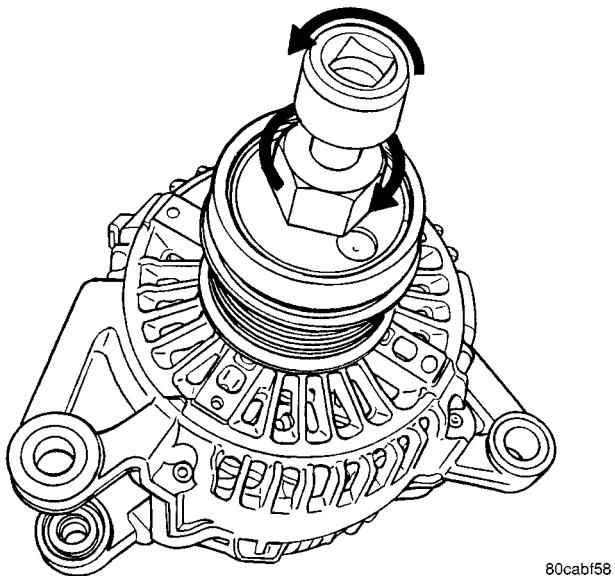

Fig. 15 DECOUPLER INSTALLATION (Litens)
- (1) Install the Generator Decoupler to the generator shaft.
- (2) Use Special Tool #8433 (Fig. 14) to tighten the Generator Decoupler (Fig. 15). Refer to the torque chart for the proper torque.
- (3) Install a new decoupler pulley cover.
- (4) Install the Air Box, refer to the Engine section for more information.
- (5) Raise vehicle and support.